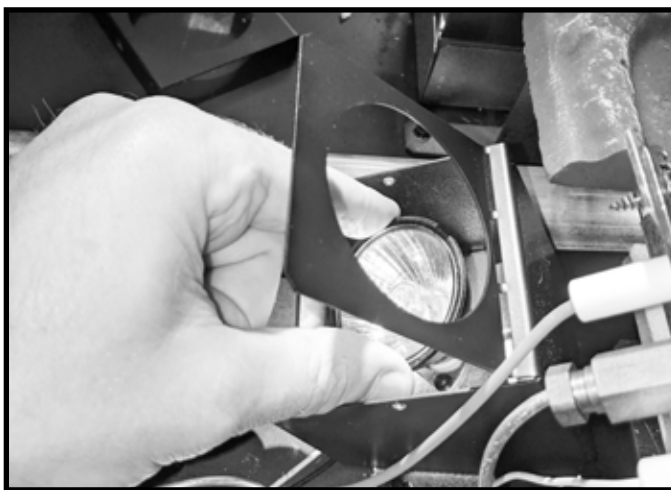
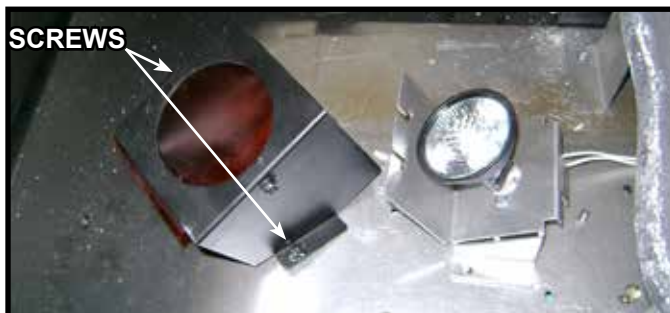

Figure 11.12 Install Bulb
Figure 11.13 Light Housing Removed, Bulb Installed
2. Install the two accent lights by either removing the two screws that hold the light housing to the firebox bottom as shown in Figure 11.13 or, for easy access, remove the two screws from the light housing cover. See Figure 11.1 Install bulb by inserting the 2 pins on the bulb base into the 2 holes in the socket. See Figure 11.12 or Figure 11.13.